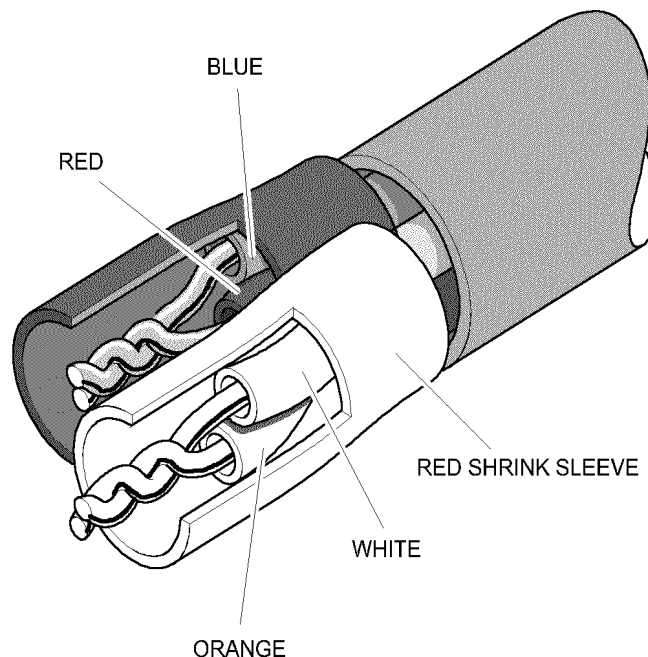

Fig. 7-12
4. Insulate both of the soldered joints with the small red shrink sleeves provided, apply temperature until sleeve shrinks into place (preferably via an industrial "heat gun" or similar device), see Fig. 7-12 below.